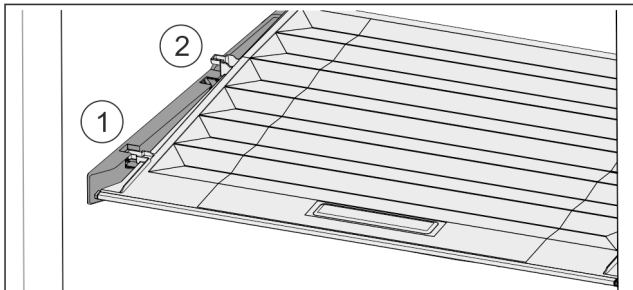

Fig. 29
- ▶ Pull the lid up at the front to the opening in the retaining parts Fig. 29 (1).
- ▶ Lift from the back and pull it up and out Fig. 29 (2).